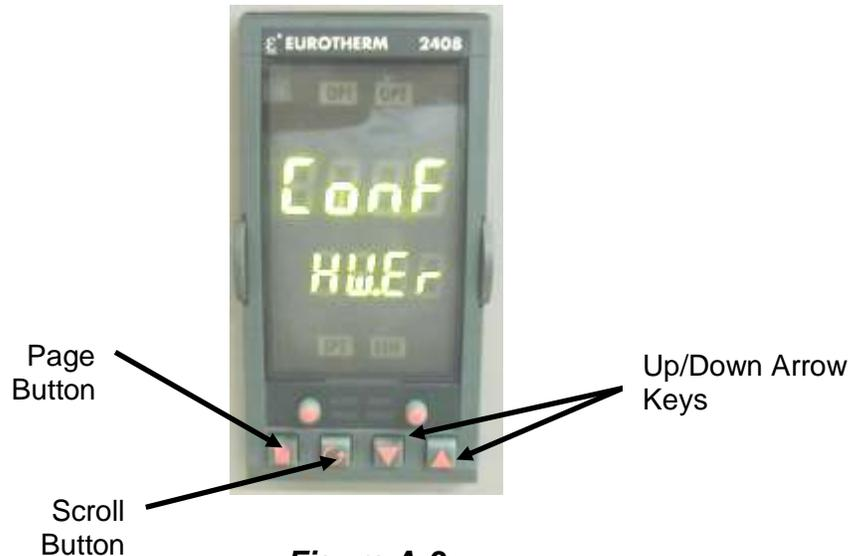

Figure A-3
- Place Temperature Indicating Controller back into Control Box Assembly and power up unit. The following screen will appear. (See Figure A-3)
- The Controller will report a hardware error as indicated in Figure A-3. Press the ▲ (up) arrow key located on the right side of the Temperature Controller until “8” appears on the lower half of the screen.